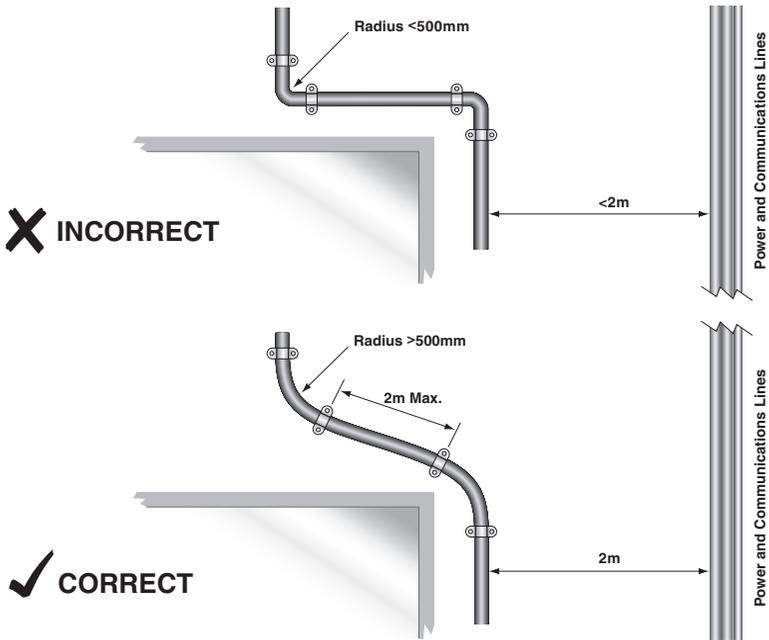

Figure 12.
- Parallel routing with other services – Minimum separation = 2m. See Figure 12 on page 19.